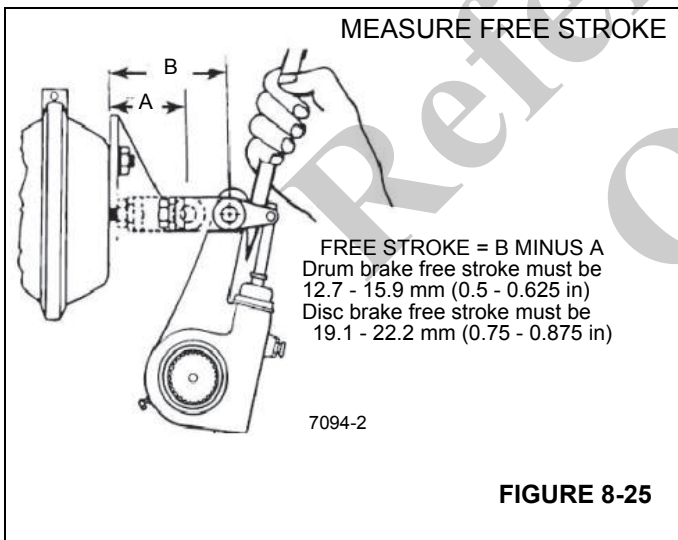

FIGURE 8-25
- With service brakes released, measure distance from slack adjuster clevis pin to chamber mounting face on each brake. Refer to Dimension "A" in (Figure 8-25).
- Starting with 6.21 to 6.89 bar (90 to 100 psi) air tank pressure in both primary and secondary systems, fully apply service brakes and hold brakes on. Do not pump the brakes. Measure between the same points as in step 5 on each brake. This is Dimension "B" in (Figure 8-25).
- Subtract Dimension "A" from Dimension "B" for each brake position (Figure 8-25). This value cannot exceed 5 cm (2 in) on the front brakes or 6.3 cm (2.5 in) on the rear brakes.